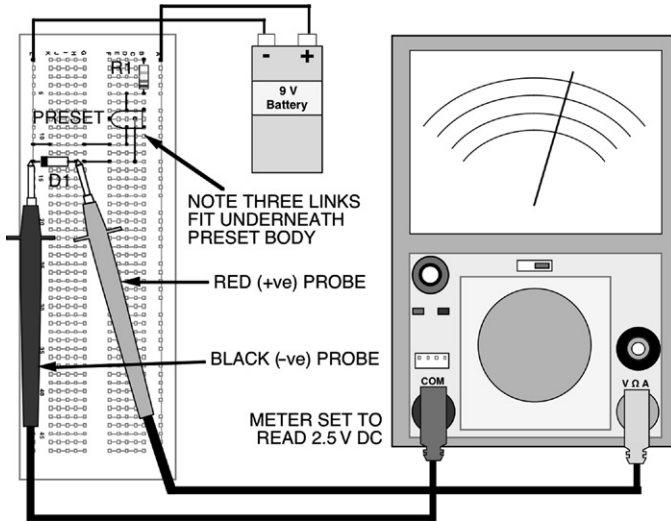

FIGURE 6.9 The breadboard layout for the circuit in Figure 6.7.
1. Set up the components on the breadboard to measure only the voltage across the diode. The breadboard layout is given in Figure 6.9. Before you connect your battery to the circuit, make sure the wiper of the preset is turned fully anticlockwise.